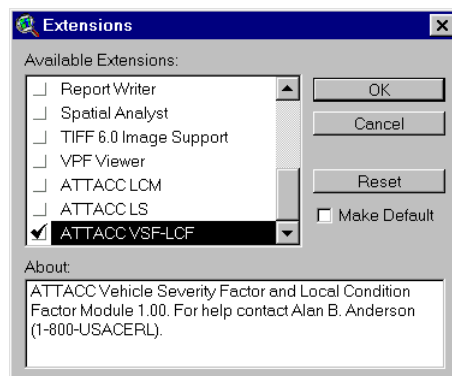

Figure 4. ArcView Extensions dialog box for selecting ATTACC VSF/LCF Calculator.
2. Select the extension titled <ATTACC VSF/LCF>. Press the <OK> button. The VSF/LCF Calculator extension is now loaded. Figure 4 shows the ArcView Extensions dialog box. Notice that the information box provides additional information about the extension. The VSF/LCF Calculator extension provides POCs for support using the VSF/LCF Calculator.